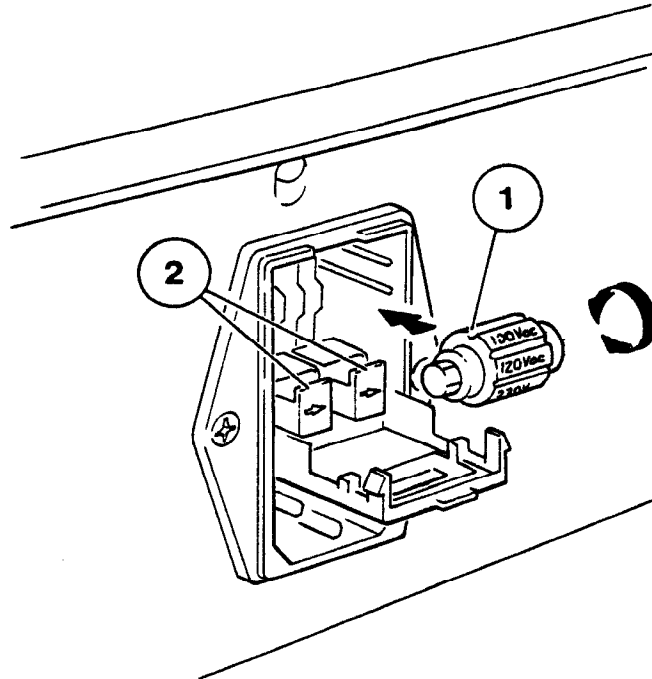

Figure 2.5 Voltage Selector
11. Check that the voltage shown on the voltage selector is correct for the local supply. If it is not, open the voltage selector compartment. Slide the voltage selector bobbin (item 1, Figure 2.5) out of the instrument and replace it so that the required voltage setting will be visible through the window of the compartment cover. Close the compartment cover.